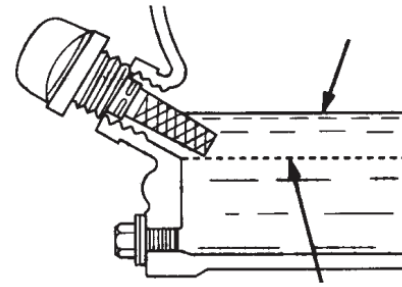

FIGURE 3
7.2.4 If the oil level is low (Figure 3), fill to the edge of the oil filler hole with the recommended with SAE10W-30 4 stroke oil. Maximum oil capacity is 400 cc.
When ambient temperatures are below 60°F (16°C) cold weather startup procedures must be followed before bringing machine into maximum engine RPM and rotor speed. If the procedure is not followed, damage could occur which will void the warranty. (Figure 3)